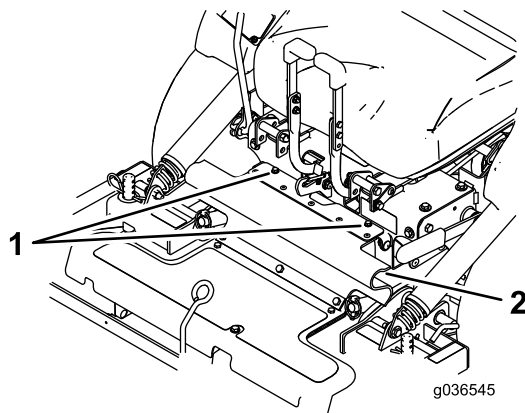

Figure 10
3. Remove the hairpin cotter and clevis pins from both sides of the PTO guard (Figure 10).